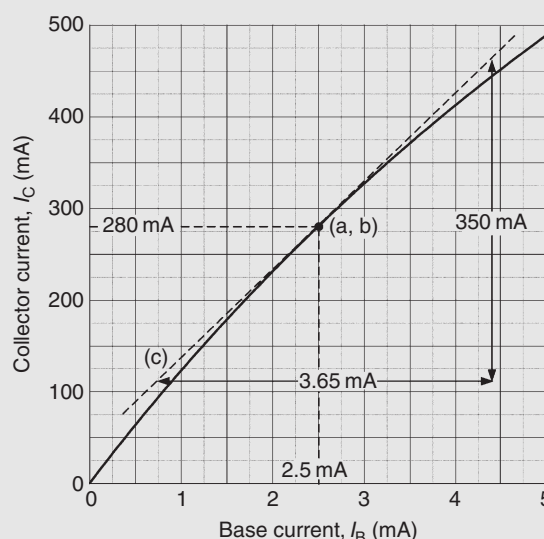

Figure 12.15
Problem 5. Fig. 12.15 shows the transfer characteristic for an n-p-n silicon transistor. When the base current is 2.5 mA, determine (a) the value of collector current, (b) the static value of current gain and (c) the dynamic value of current gain
- (a) From Fig. 12.15, when $I_B = 2.5 \text{ mA}$, **collector current, $I_C = 280 \text{ mA}$** (see point (a, b) on the graph)
- (c) In Fig. 12.15, the tangent through the point (a, b) is shown by the broken straight line (c). Hence, **the dynamic value of current gain**